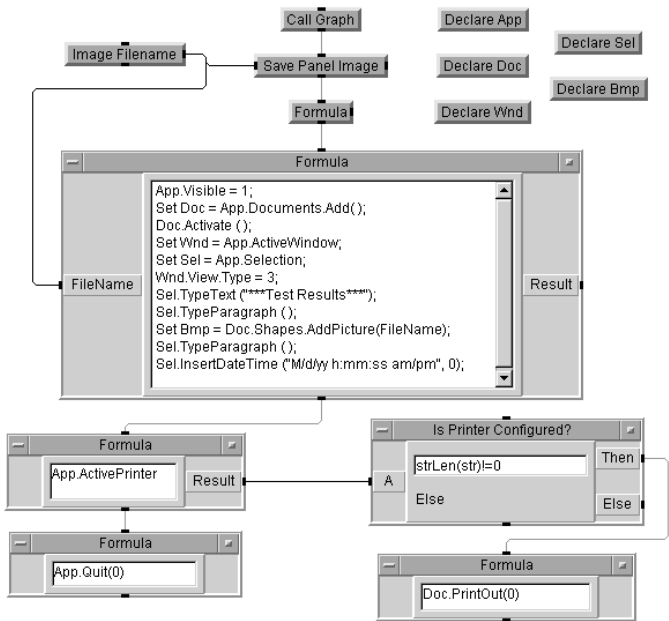

Figure 162 The Complete Program for Report in MS Word
- 9 Add three more Formula objects and one If/Then/Else object, configure, and connect them as shown in Figure 162.